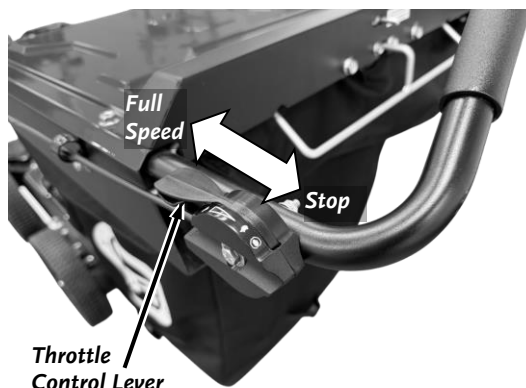

Figure 17
3. Move the Throttle Control Lever to the “FULL SPEED”  position (**Figure 17**).
1. Slowly move the Throttle Control Lever to the “STOP” position (**Figure 17**).